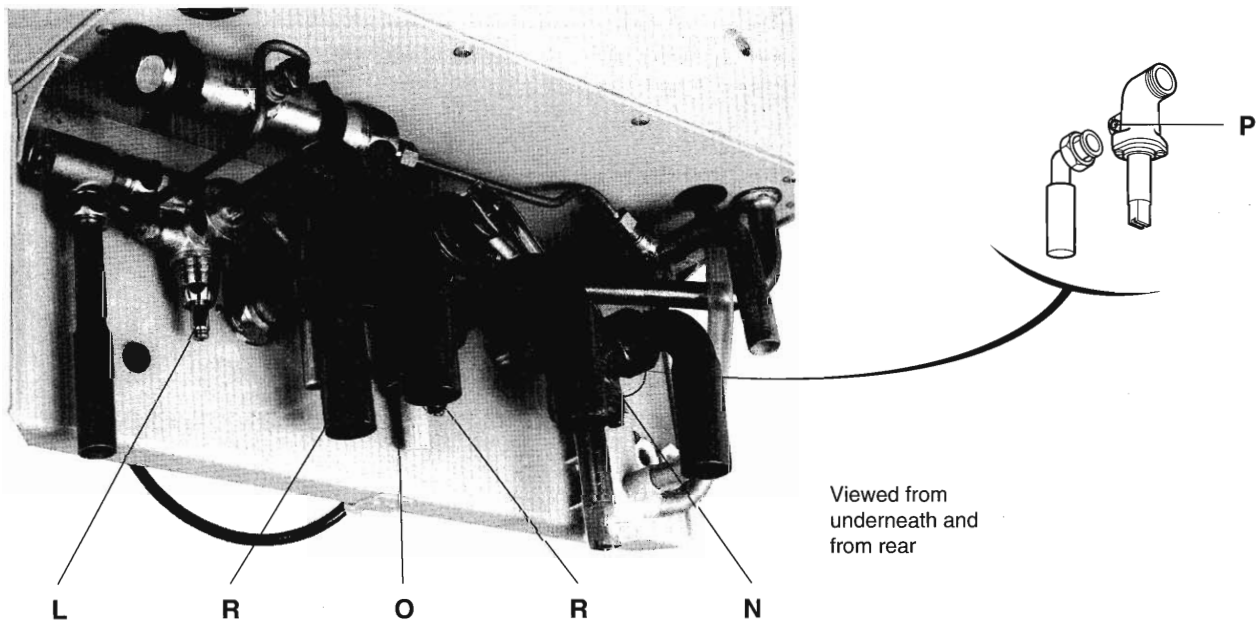

Figure 21
Domestic Hot Water circuit. (Figure 21)
Central Heating circuit. (Figure 21/22)
- 12.4. Remove the 2 hexagon headed screws and washers fitted through the rear bulkhead panel R (Figure 21).